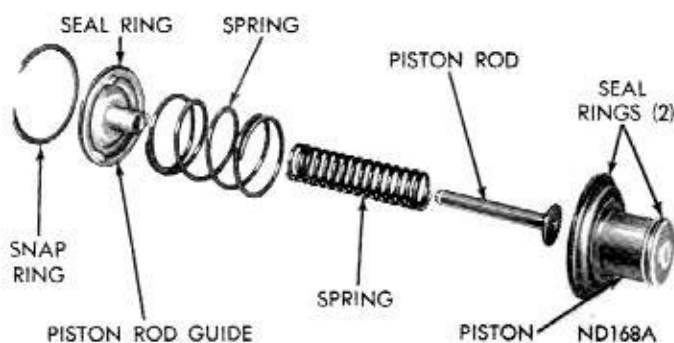

Fig. 81—Kickdown Servo
Figure 81 shows a disassembled view of the kickdown servo assembly. The larger outer spring shown in Figure 81 is not used in A-904 transmissions. Also, it is not used in maximum performance vehicles with A-727 transmissions.
(1) Carefully push servo piston into the case bore. Install piston rod, two springs and guide (Fig. 81). **The A-904 transmissions use one small spring only. Also, one small spring only is used in the maximum performance vehicles with A-727 transmissions.**
(2) Compress kickdown servo springs by using engine valve spring compressor Tool C-3422, then install snap ring.